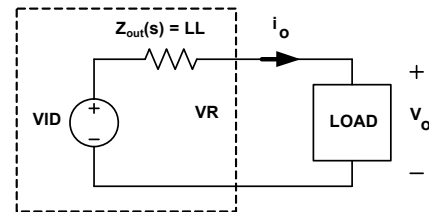

FIGURE 24. VOLTAGE REGULATOR EQUIVALENT CIRCUIT
Figure 18 shows the desired load transient response waveforms. Figure 24 shows the equivalent circuit of a voltage regulator (VR) with the droop function. A VR is equivalent to a voltage source ($= V_{\text{ID}}$) and output impedance $Z_{\text{out}}(s)$. If $Z_{\text{out}}(s)$ is equal to the load line slope LL , i.e., constant output impedance, in the entire frequency range, V_o will have square response when I_o has a square change.